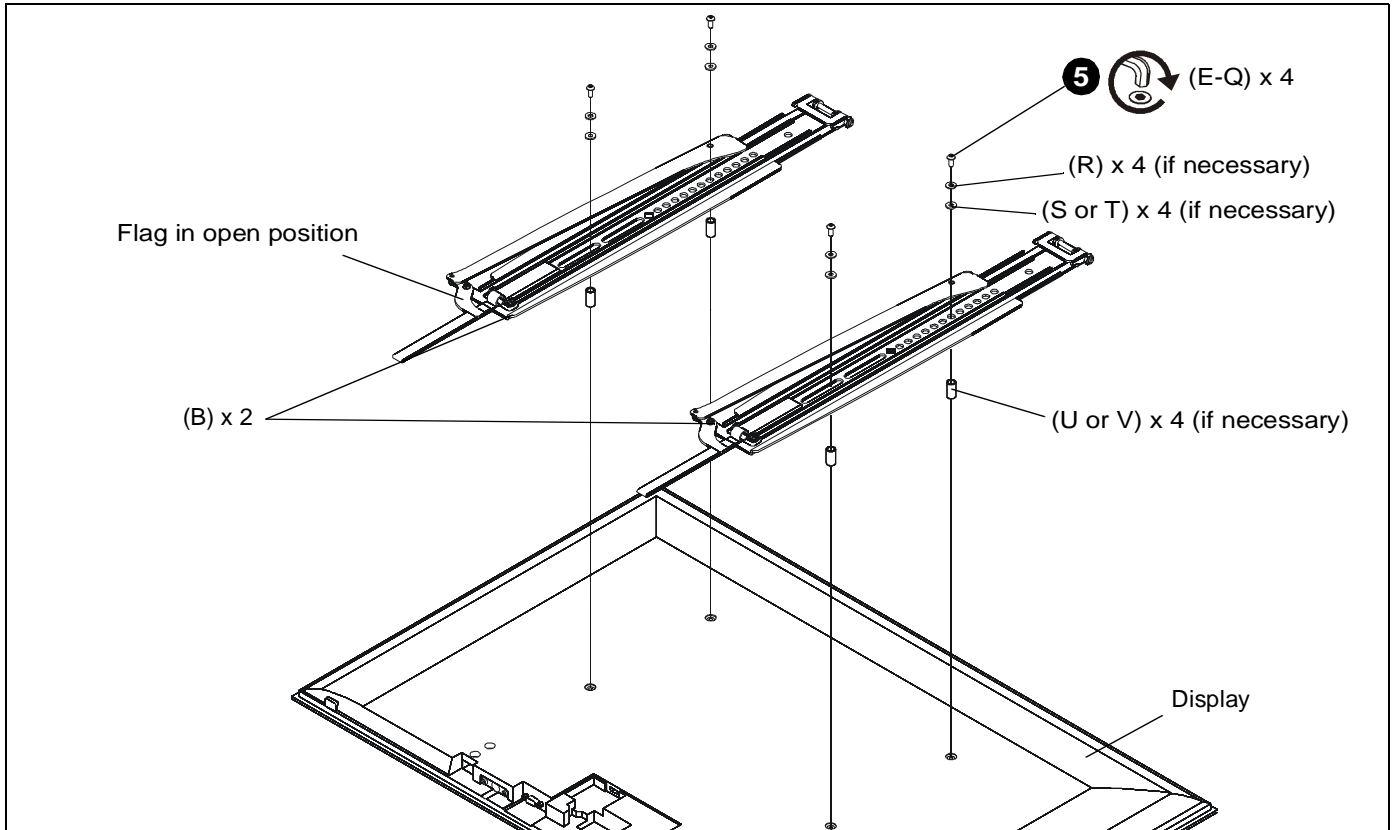

Figure 4
- Install four button head cap screws (E - Q) through required washers (R) and shoulder washers (S or T), interface brackets (B), spacers (U or V) and into holes on back of display. (See Figure 4)
**NOTE:** Make sure locking flags are in the open position before attaching display to wall plate. Flags are shown in the open position in Figure 4.